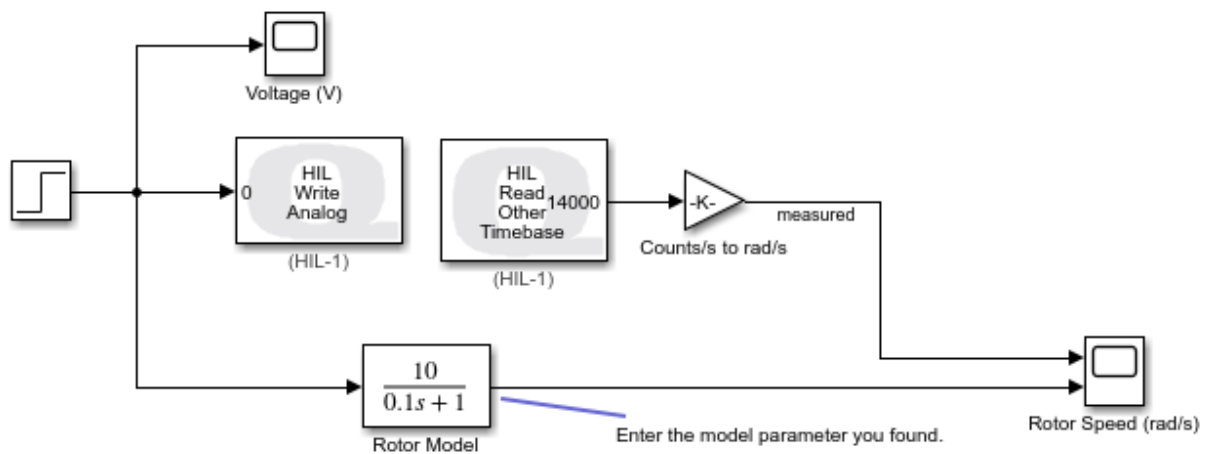
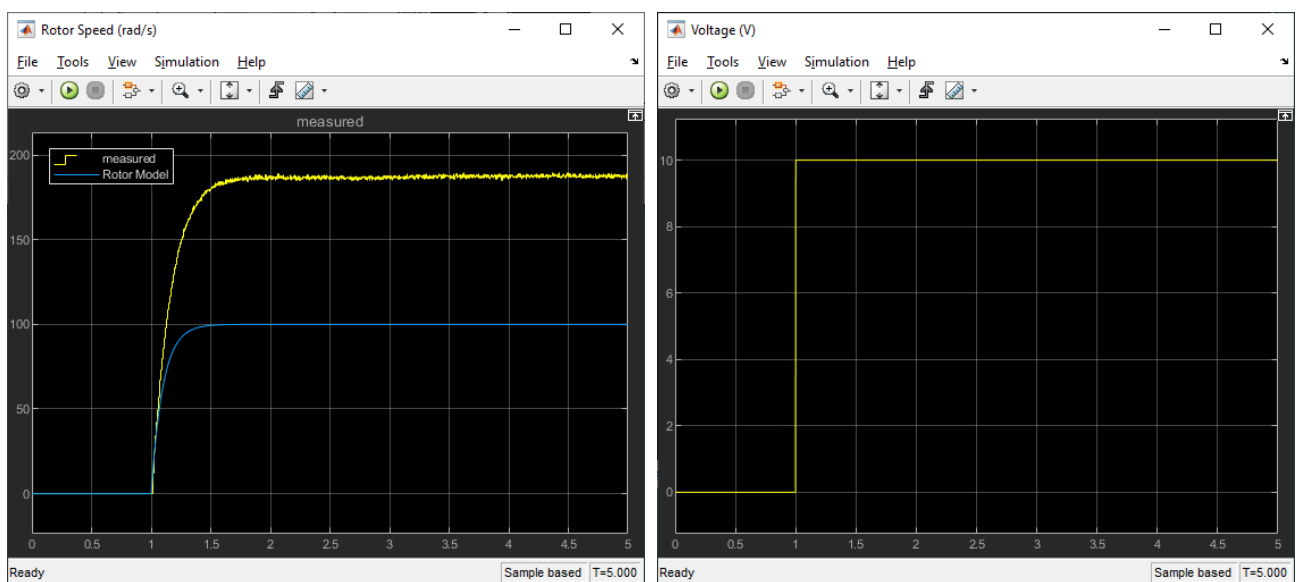

Figure 3 - `q_aero2_rotor_model_val` Simulink model is used to validate the rotor model.
Figure 4 - Sample response from `q_aero2_rotor_model_val` Simulink model.
In this section, the rotor model you found is ran in parallel with the hardware to see how well the model represents the actual system. The *q_aero2_rotor_model_val* Simulink model shown in Figure 3 applies a 10V step to the Aero 2 front rotor, i.e., motor 0, and the transfer function model. The rotor speed measured from the digital tachometer and the simulated rotor speed from the model are displayed in the *Rotor Speed* scope.
3. Enter the transfer function parameters, K and τ , that you found in the *Rotor Model* Transfer Fcn block in the Simulink model, as illustrated in Figure 3.
4. Build and run the `q_aero2_rotor_model_val` Simulink model in QUARC by clicking on the *Monitor & Tune* button in the Simulink *Hardware* tab. See the sample response shown in Figure 4. Note that this is using the default transfer function $10/(0.1s + 1)$ shown in Figure 3 and is not the correct model of the rotor.